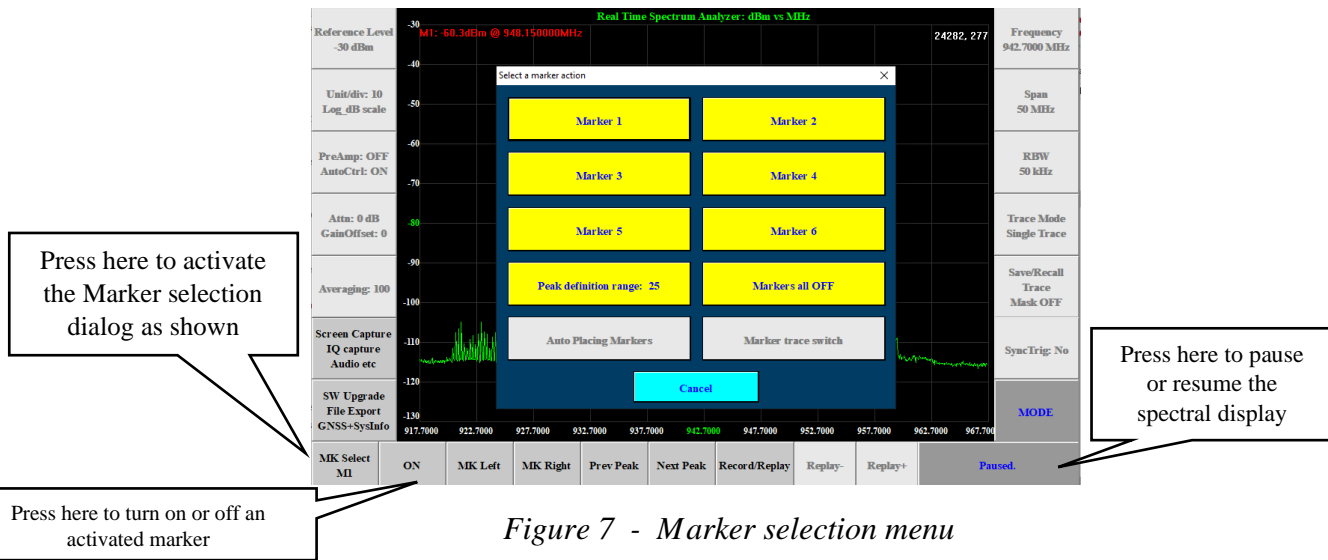

Figure 7 - Marker selection menu
On the WSA GUI, as shown in Figure 7, press the lower left button “MK Select”, you’ll see the marker selection dialog.
1. Whenever a marker is first turned on, it always lands on the global spectral peak location. You then click (or touch) at another location, the marker will move a local peak value near where you touched. The search range can be adjusted by setting the “Peak definition range” value in Figure 7. You can further move the marker left or right by either touch and then slide on the screen, or use the lower buttons labeled as “MK left”, “MK right”, “Prev Peak”, “Next Peak”.